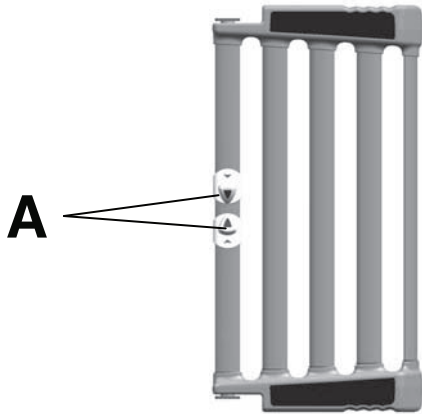

Figure 6 – Access door
1. Squeeze the release knobs (A) to release the access door (Figure 6).